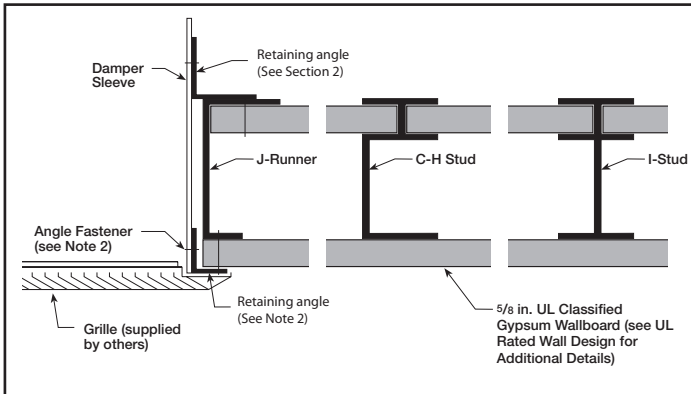
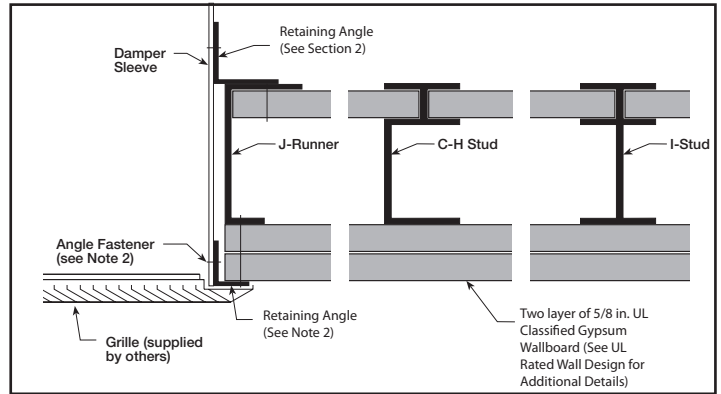

Figure 5: 1 Hour Shaftwall Rating
Figure 6: 2 Hour Shaftwall Rating
- Angle legs may be reversed and one leg inserted into the wall opening. Retaining angles used in conjunction with grille installations must be a minimum of 20 gauge (1mm) steel and have a minimum of ⅝ x 1 in. (16mm x 25mm) legs (See **Figure 5** and **Figure 6**).